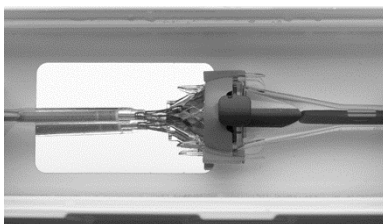

Figure 36
9. Hold the loading tool stationary with one hand, and with the other hand manually advance the capsule guide tube so that the flexible section covers the paddle attachment pockets (Figure 36) and the top portion of the outflow struts.